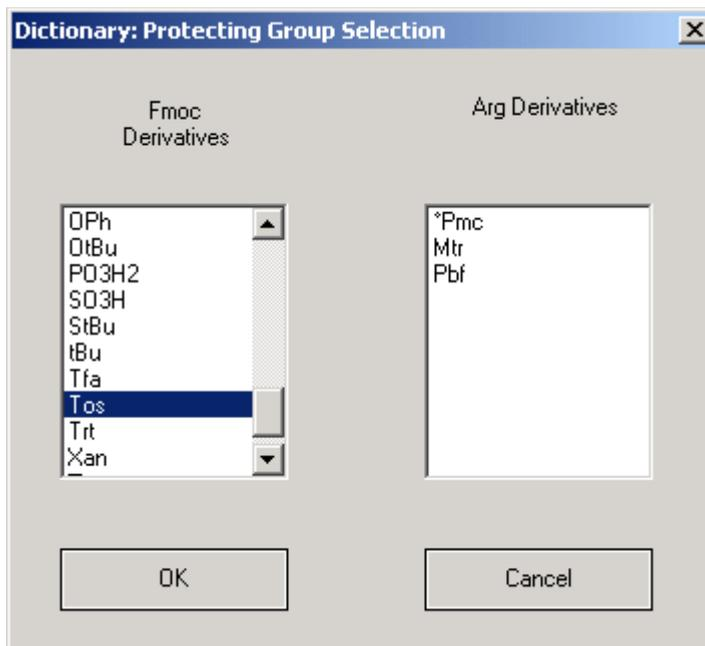
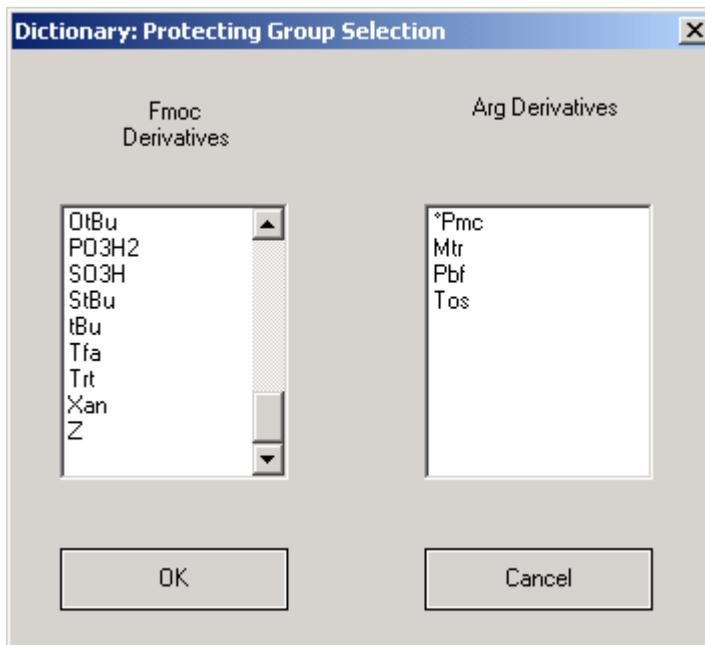

Figure 8-3 Select a new Fmoc Protecting Group
Figure 8-4 The new Protecting Group (Tos)
The Protecting Group Selection dialog box opens (Figure 8-3).
2. To add a protecting group, scroll the Fmoc Derivatives list and double-click the group (Figure 8-3). The new group (Tos) will be added to the Arg derivatives list (Figure 8-4).